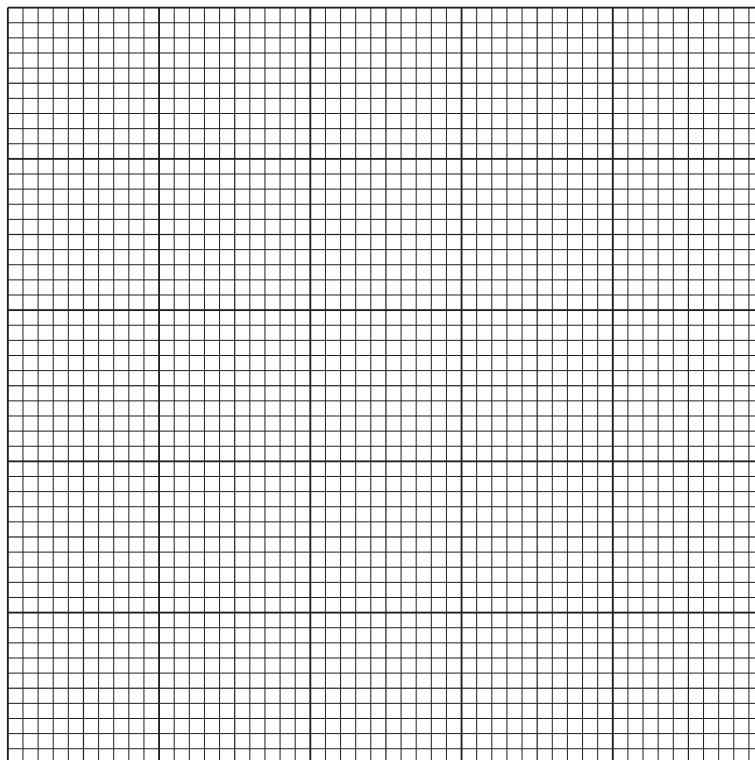

Fig. 1.2
- (i) Draw a bar chart of the data in Table 1.4 on the grid in Fig. 1.2.